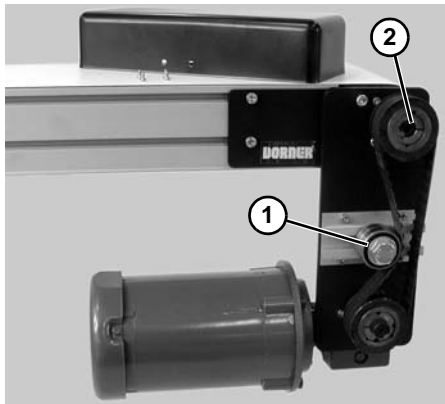

**Figure 60**
- Remove four (4) screws (**Figure 60, item 1**) and remove cover (**Figure 60, item 2**).